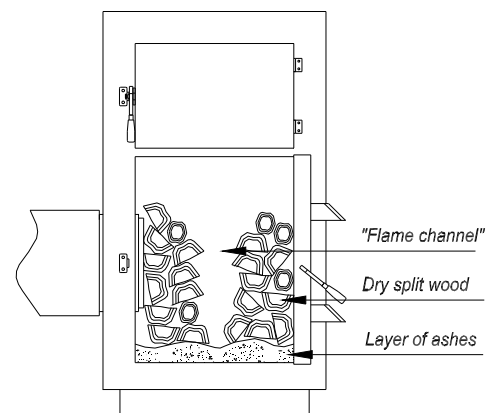

Fig. 7- Manual heating
2. Fill the boiler app half with dry and split wood (max moisture content 15 – 20 %). See to, that you keep an app. 10 cm opening as shown on fig. 7 between the two stacks of wood.